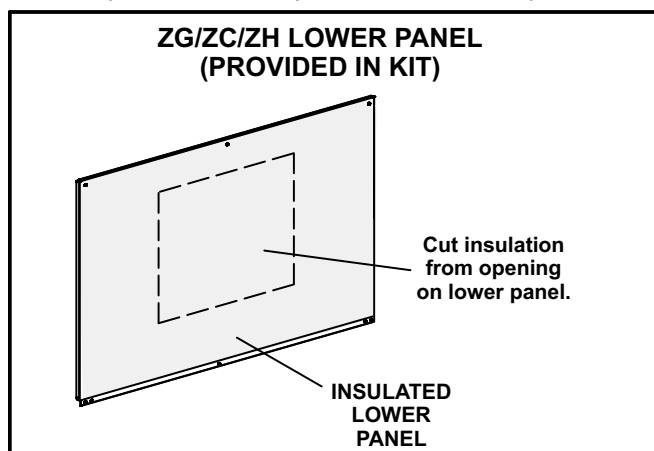

FIGURE 8
- 3- Cut insulation from opening in lower panel. See figure 8.